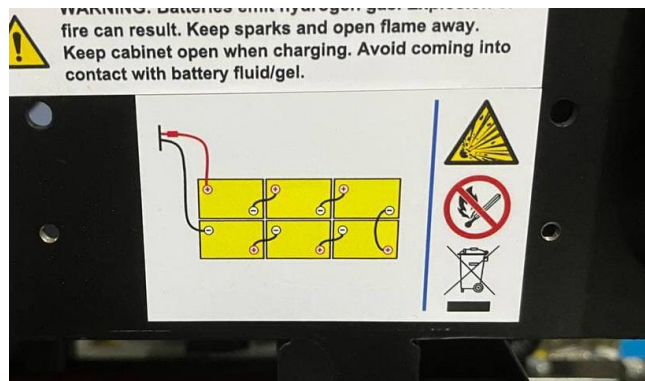

Fig. 5
8. Refer to the connection diagram to connect the batteries (Fig 5).